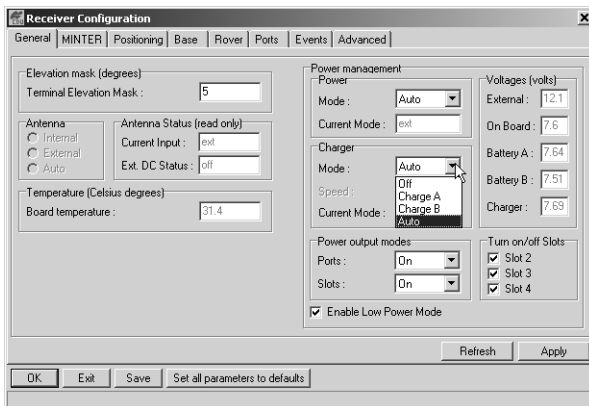

Figure 2-14. Select Charger Mode
4. Select the Charger Mode drop-down list to set the desired charger mode (Figure 2-14). Current Mode displays the charging battery: a, b, or none (off).